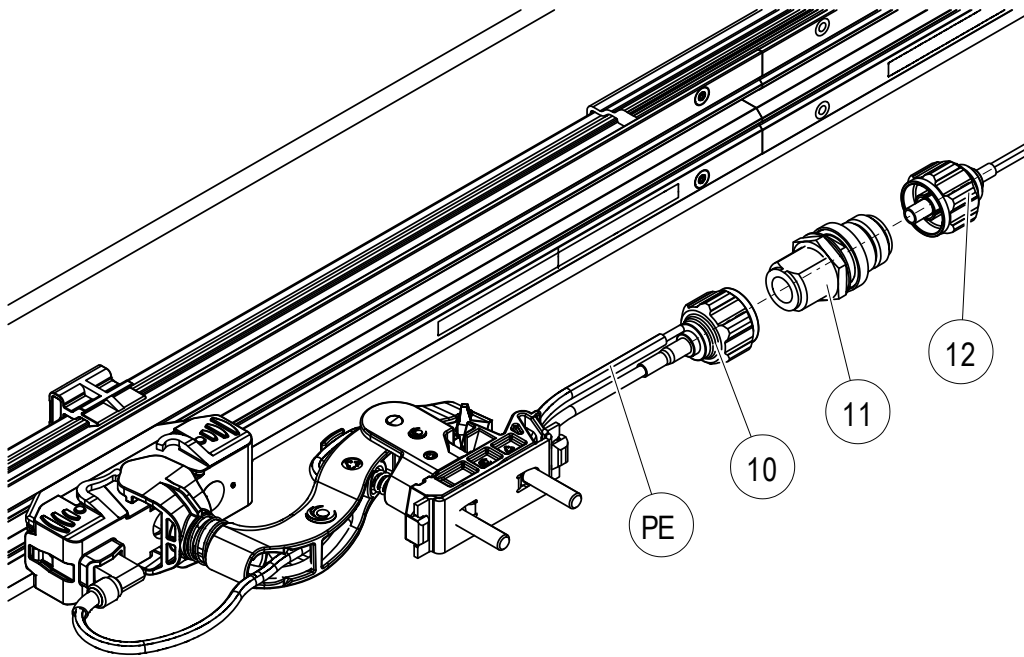

Fig. 101: Connection to mobile antenna
- Drill holes in the support structure at a distance of 30 mm (see Fig. 101).